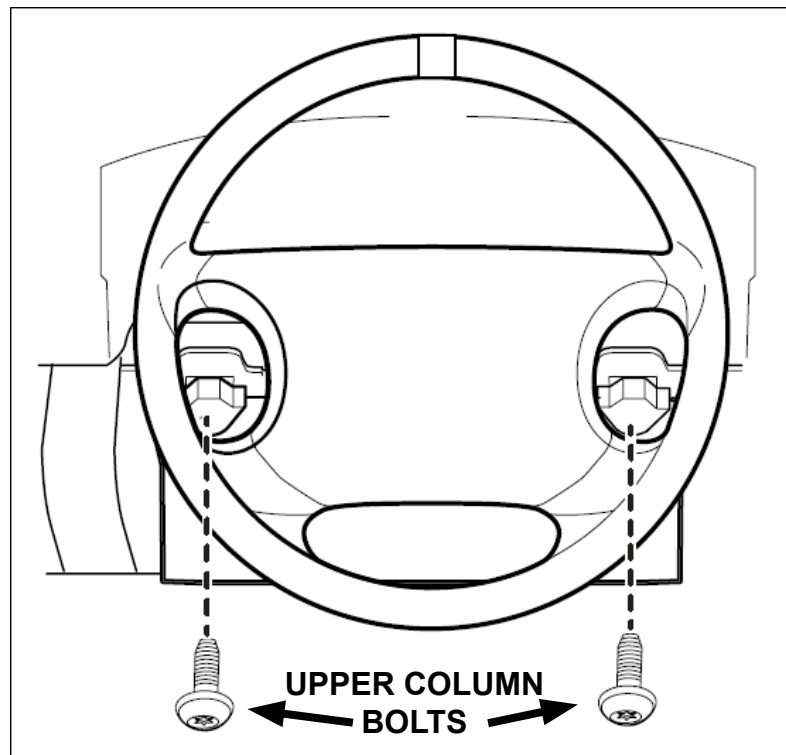

FIGURE 8
34. Install two (2) new upper column bolts. See Figure 8.